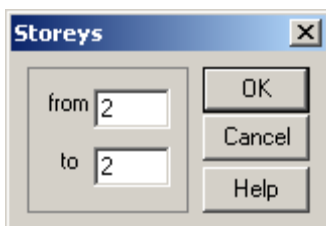

Figure 1.18.4 **Storeys** dialog box
- ⇒ In the **Storeys** dialog box (see Fig.1.18.4), define the following parameters: